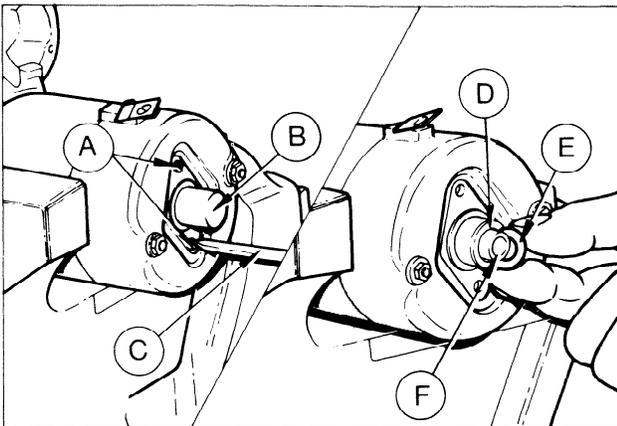
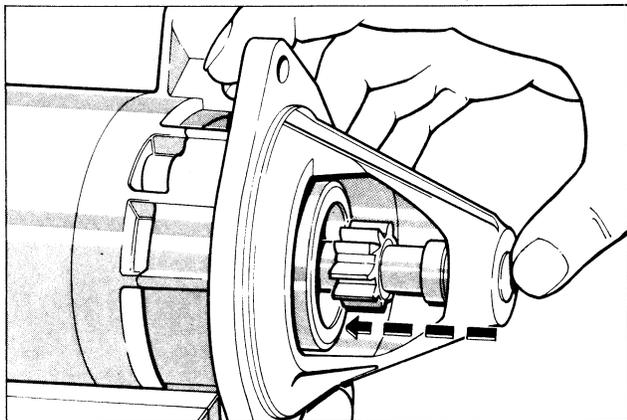

FIG. 6 End Housing Cap and Armature Shims
FIG. 11 Slide Armature in its Bearings
3. Remove two screws retaining commutator end housing cap. (Fig. 6) remove cap and rubber seal.
- Slide armature in its bearings, Fig. 11, to obtain maximum possible protrusion of armature shaft at commutator bearing end. Install sufficient shims on armature end play when "C" clip is in place. Fit "C" clip (Fig. 6).
- Place bearing cap seal in position on commutator housing, smear a small quantity of lithium based grease on end of armature shaft and refit bearing cap, securing with two screws (Fig. 6).